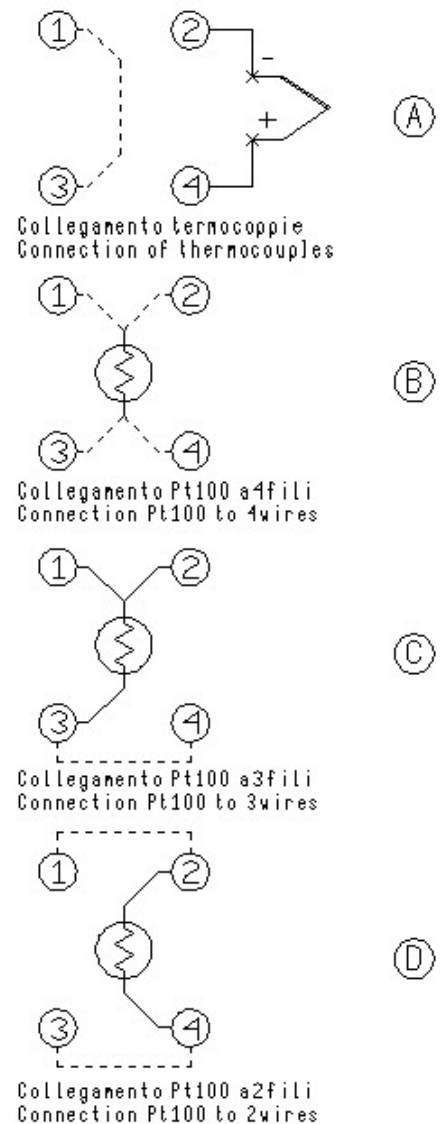

Fig. 7
- ◊ Thermocouple – connect the wires to the clamps 2-4 to make attention to the polarity; connect the clamps 1-3 as indicated. Reference to Fig. 7-A
- ◊ Pt100 to 4 wires – connect the clamps 1-2-3-4 as indicated in Fig. 7-B
- ◊ Pt100 to 3 wires – connect the wires to clamps 1-2-3; connect the clamps 3-4. Reference to Fig. 7-C
- ◊ Pt100 to 2 wires – connect the wires to clamps 2-4; connect the clamps 1-2 & 3-4. In case of two wires connections remembers to us shortest wires possible. Refer to Fig. 7-D